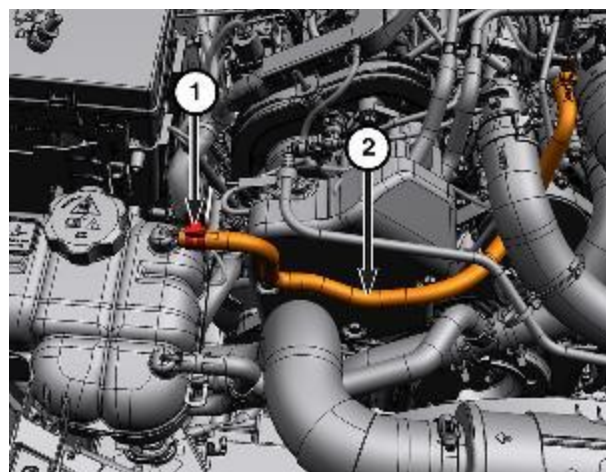

Figure 2 - Degas Hose
5. Release the hose clamp (1) and set the degas hose (2) aside (Figure 2).